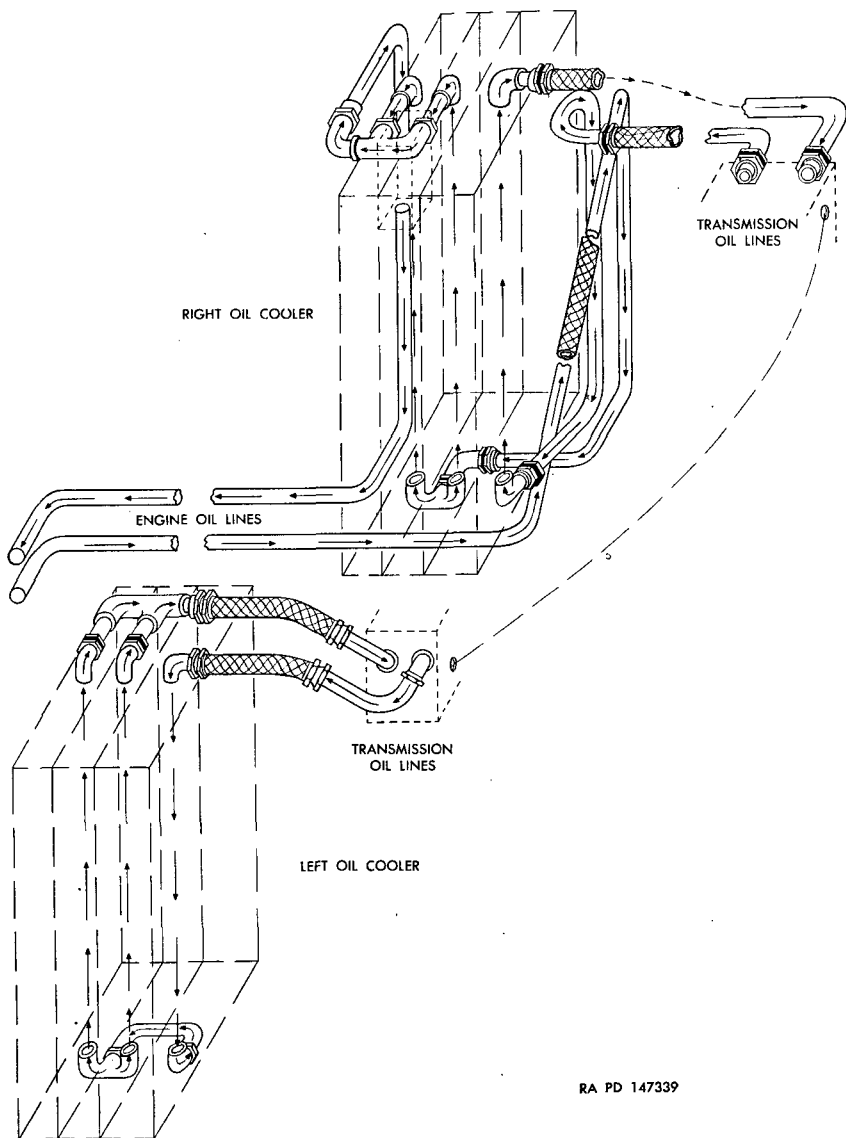

Figure 239. Oil cooler lines schematic diagram.
a. GENERAL. Two oil coolers are mounted in the engine compartment, just forward of the transmission, one on each side of the main engine (figs. 231, 232, 233, and 234). Each cooler has three cores arranged as follows: Three cores of the left cooler and the rear core of the right cooler are used to cool transmission oil and the remaining two forward cores of the right cooler are used to cool engine oil. Each oil cooler is provided with a fan mounted between the cooler and engine rear shroud. The fans draw air through armor louvers in the top deck, through the radiator cores, over the transmission, and out the armor louvers at rear of top deck. The engine rear shroud prevents the air from recirculating through the oil coolers. Oil lines are provided to connect the engine and transmission to their respective cores in the oil coolers (fig. 239). An oil cooler cradle, attached to the engine oil pan, supports the oil coolers (figs. 130 and 222).
c. OIL COOLER LINES. The oil cooler inlet lines (fig. 239) from transmission are connected to the rear core of the left and right
coolers. Oil cooler outlet lines to transmission are connected to two forward cores of the left cooler and rear core of the right cooler. Oil cooler inlet and outlet lines from engine (fig. 239) are connected to the two forward cores of the right oil cooler. All flexible lines are the same length to provide interchangeability.